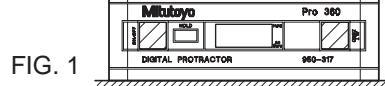

FIG. 1
- (1) The DIGITAL PROTRACTOR faces you and white lettering on the face is right-side up. (See Fig.1)
- (2) Align with an edge or line – wait 10 seconds.
- (3) Press HOLD button until "[1]" appears.